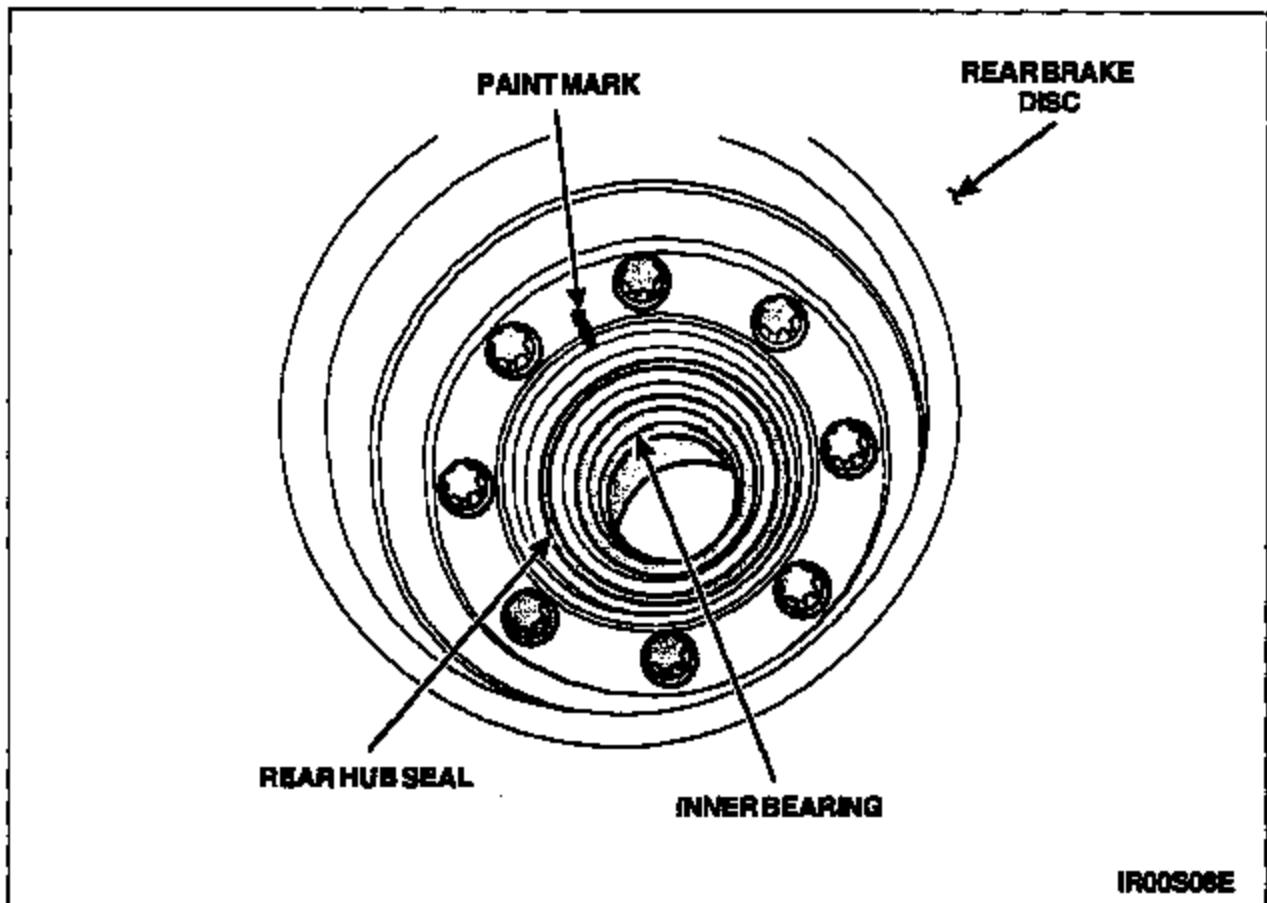

FIGURE 5
6. Mount the hub in a vise, then place a mark on the disc and the hub as a reference for reassembling. See Figure 5.
Separate the disc from the hub. See Figure 5.
Remove the rear hub seal and inner bearing. See Figure 5.